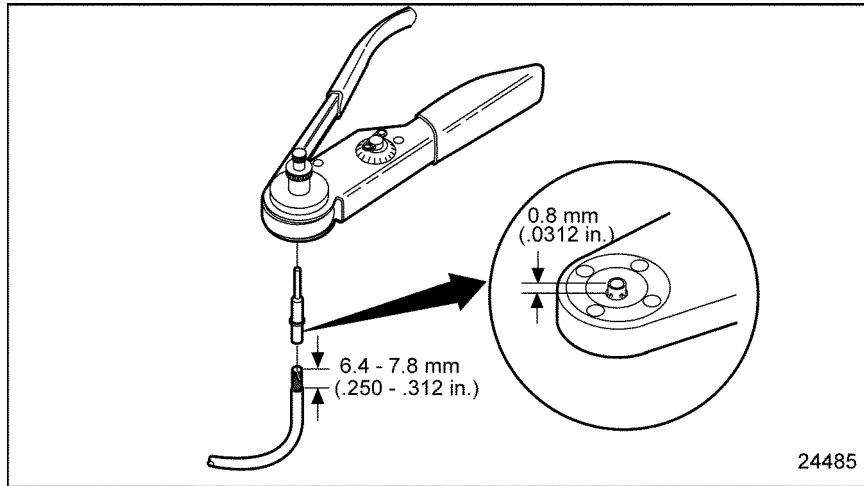

Figure 2-9 **Setting Wire Gage Selector and Positioning the Contact**
4. Position the contact so that the crimp barrel is 1/32 of an inch above the four indenters. See Figure 2-9. Crimp the cable.